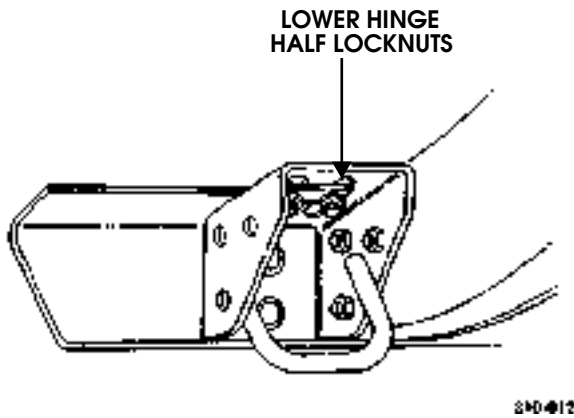

Figure 10-86: Lower Hinge Half Locknut Location
3. Gently close hood and loosen lower hinge half locknuts (Figure 10-86).
7. Tighten front lower hinge half locknuts to 28 lb-ft (38 N•m) and recheck hood position (Figure 10-86).